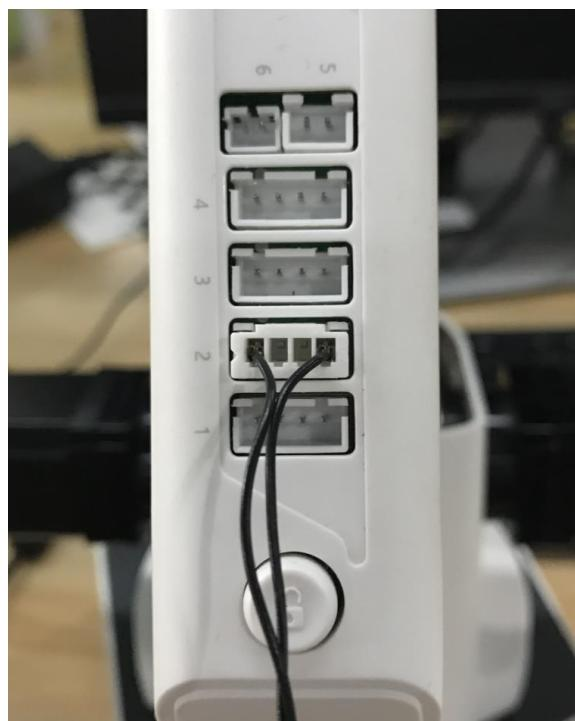

Figure 5.171 Insert the cable of the auto-levelling
**Step 3** Insert the cable of the auto-levelling tool to the interface **2** on the Forearm, as shown in Figure 5.171.